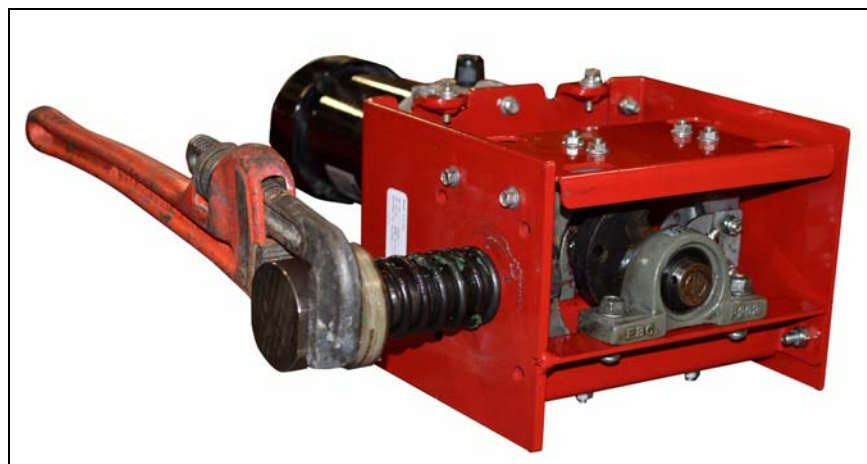

Figure 6G
3. While securely holding the power unit, use a pipe wrench to loosen and remove the hammer shaft (C) from the cam follower. *(See Figure 6G.)*